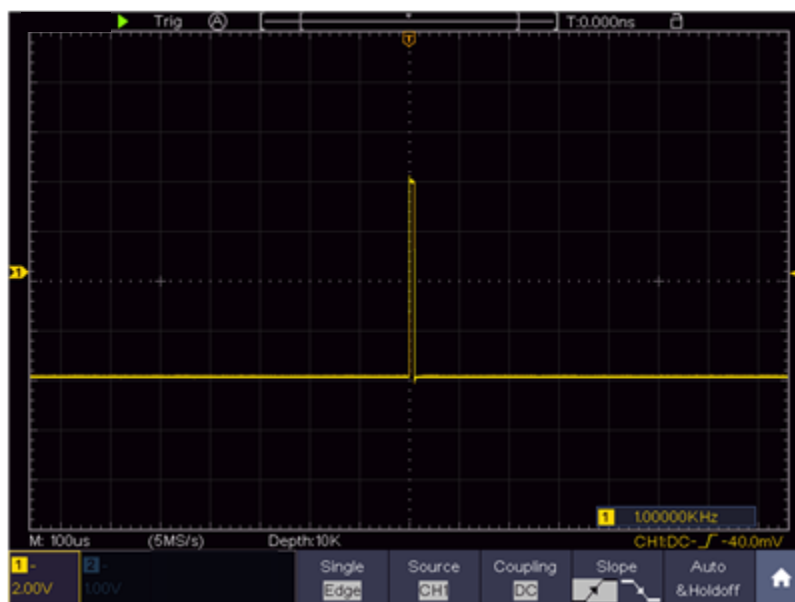

Figure 8-3 Capturing a Single Signal
- (4) Select **Acqu Mode** in the bottom menu. Select **Peak Detect** in the right menu.
- (5) Click  to call up the menu panel. Click the **Trig Menu** softkey on panel to display the Trigger menu.
- (6) Select the first menu item in the bottom menu. Select **Single** in the right menu.
- (7) In the left menu, select **Edge** as the mode.
- (8) Select **Source** in the bottom menu. Select **CH1** in the right menu.
- (9) Select **Coupling** in the bottom menu. Select **DC** in the right menu.
- (10) In the bottom menu, select **Slope** as  (rising).
- (11) Turn the upper knob and adjust the trigger level to the roughly 50% of the signal to be measured.
- (12) Check the Trigger State Indicator on the top of the screen, if it is not Ready, push down the **Run/Stop** button and start acquiring, wait for trigger to happen. If a signal reaches to the set trigger level, one sampling will be made and then displayed in the screen. By using this approach, a random pulse can be captured easily. For instance, if we want to find a burst burr of high amplitude, set the trigger level to a slightly higher value of the average signal level, push the **Run/Stop** button and wait a trigger. Once there is a burr occurring, the instrument will trigger automatically and record the waveform during the period around the trigger time. When the **HOR** button is lit, by turning the upper knob on the front panel, you can change the horizontal triggering position to obtain the negative delay, making an easy observation of the waveform before the burr occurs (see *Figure 8-3*).